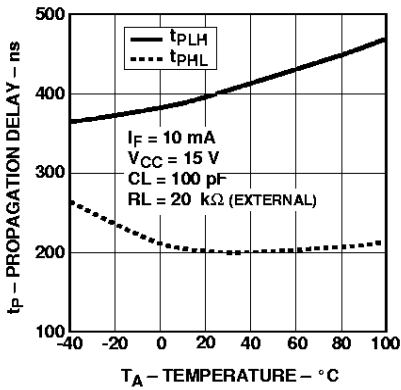

Figure 8. Propagation Delay with External 20 kΩ RL vs. Temperature.
- Due to tolerance of the internal resistor, and since propagation delay is dependent on the load resistor value, performance can be improved by using an external  $20\text{ k}\Omega$  1% load resistor. For more information on how propagation delay varies with load resistance, see Figure 8.